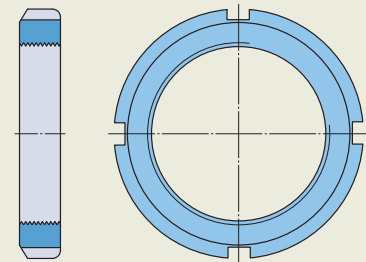

Fig. 3
- can be locked with either the MB lock washer (fig. 3) or with a stronger, MB .. A lock washer
- using a W lock washer (fig. 3) are available up to and including size 44 (thread diameter 8.628 in.)
- Lock washers (fig. 3, page 1093) engage a keyway in a shaft, or adapter sleeve thread. The washer locks the nut in position when one of the washer tabs is bent into one of the slots on the nut's outside diameter (fig. 9).